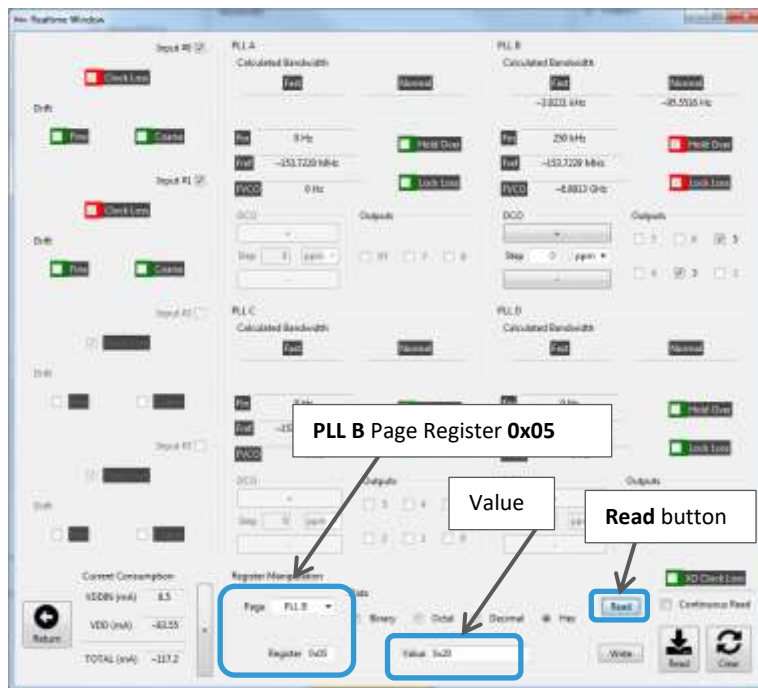

Figure 83: Reading Page PLL B Register 0x05 before changing bit[1] of the Si95148 for JESD204B
- 2) Register **0x05**, bit **1 [1]** is the **SYSREF** trigger bit (SiTime recommends reading the current value of the **0x05** register and then using the **current value** to change bit 1), see Figure 83.